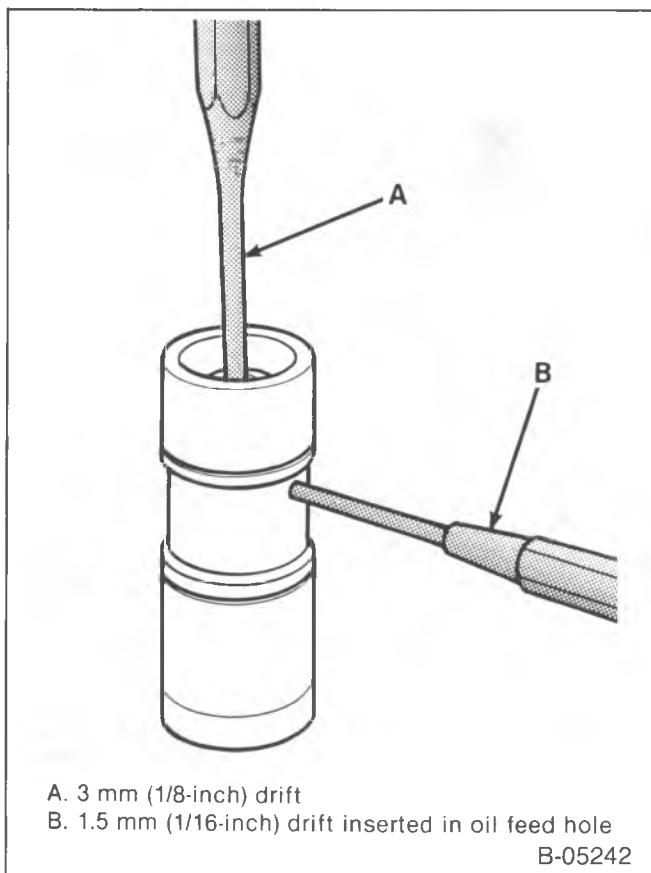

Figure 28—Assembling the Hydraulic Lifter (Typical)
- Insert a 1.5 mm (1/16-inch) drift through both oil holes to hold the plunger down against the plunger spring tension (figure 28).
6. Metering valve (227) and pushrod seat (228).
- Push down on the pushrod seat (228), using a pushrod. Remove the 1.5 mm (1/16-inch) drift.